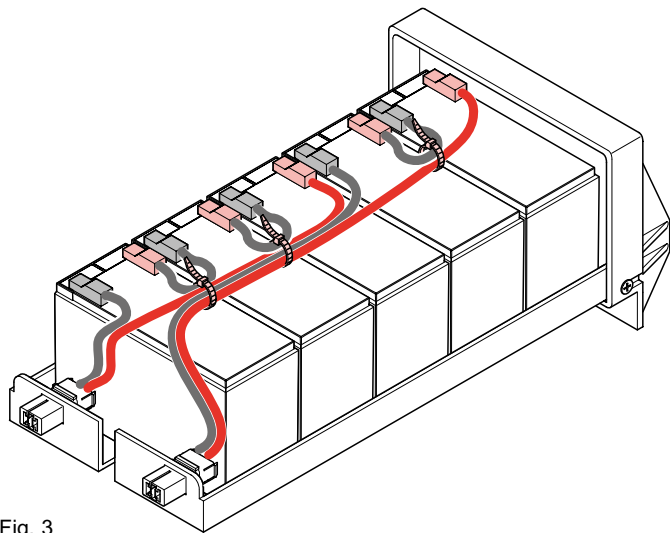

Fig. 3
9. Group the cables and fix them through the plastic clamp (See Fig. 3).
9. Raggruppare e fermare con fascetta i cavi (vedere Fig.3).